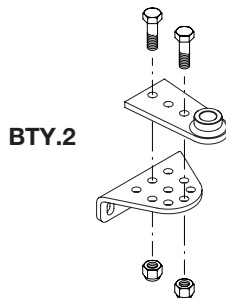

Fig.14
- Assemble the bracket BTY.2 as indicated in figure 14